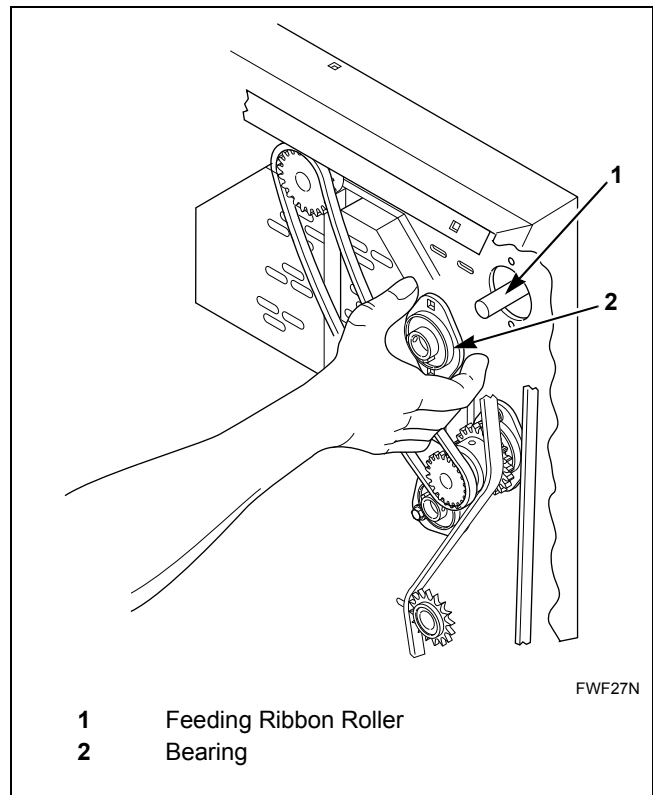

Figure 28
- Remove bearing by pressing left. Refer to *Figure 28*.